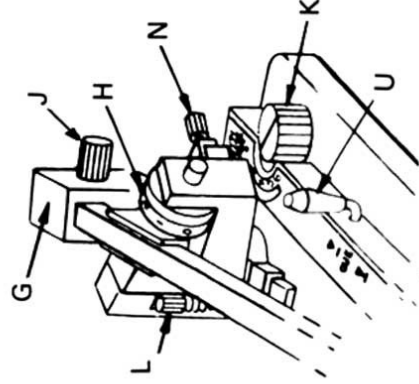

Fig. 1
### 1. PICKUP ARM BALANCE (Refer to Fig. 1 and 2)
- Rotate stylus pressure dial "H" Fig. 1, until "0" coincides with marked line on pickup body.
## 2. STYLUS PRESSURE (Refer to Fig. 1)
## 3. ANTI-SKATE CONTROL (Refer to Fig. 1)
## 4. TONE ARM HEIGHT (Refer to Fig. 1)
## 5. STYLUS SET DOWN (Refer to Fig. 1)
## CUEING LEVER AND PAUSE CONTROL (Refer to Fig. 1)